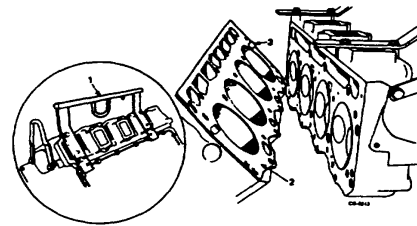

Figure 30. Removing Cylinder Head
8. Attach cylinder head lifting sling SE-1896 to cylinder head. Remove head and gasket, being careful not to damage location dowel sleeves (Figure 30).